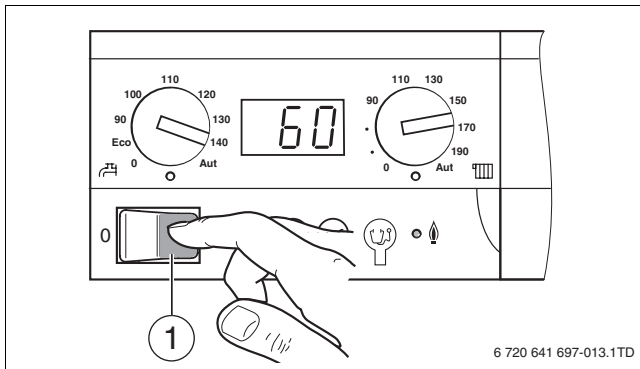

fig. 23 Mains switch to „ON“
- ▶ Switch on the appliance using the mains switch (→ fig. 23).